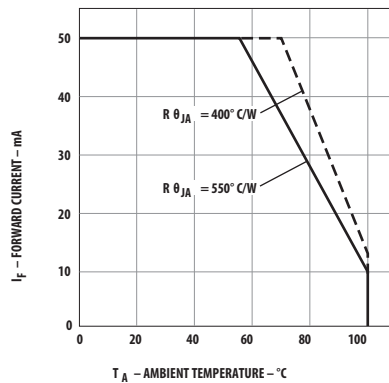

Figure 6. Maximum forward DC current vs. ambient temperature. Derating based on  $T_{JMAX} = 110^\circ\text{C}$ .
1. Derate linearly as shown in Figure 6.